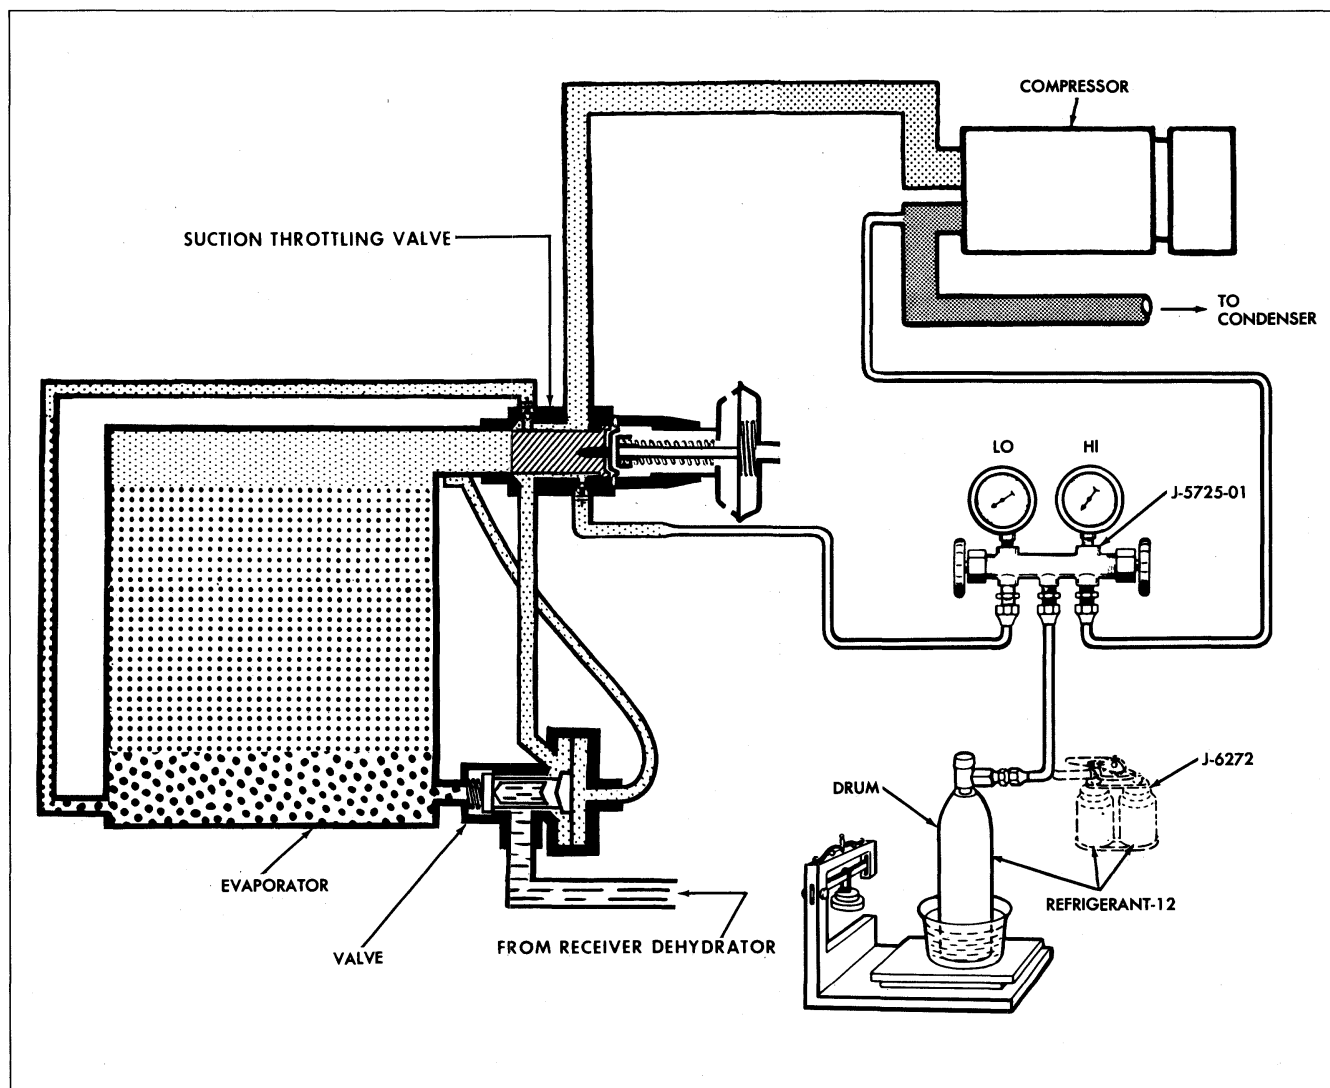

Fig. 5-3 Schematic - Charging Refrigeration System
3. Place refrigerant drum (in pail of water) on scales (bathroom or commercial, preferably commercial), Fig. 5-3.